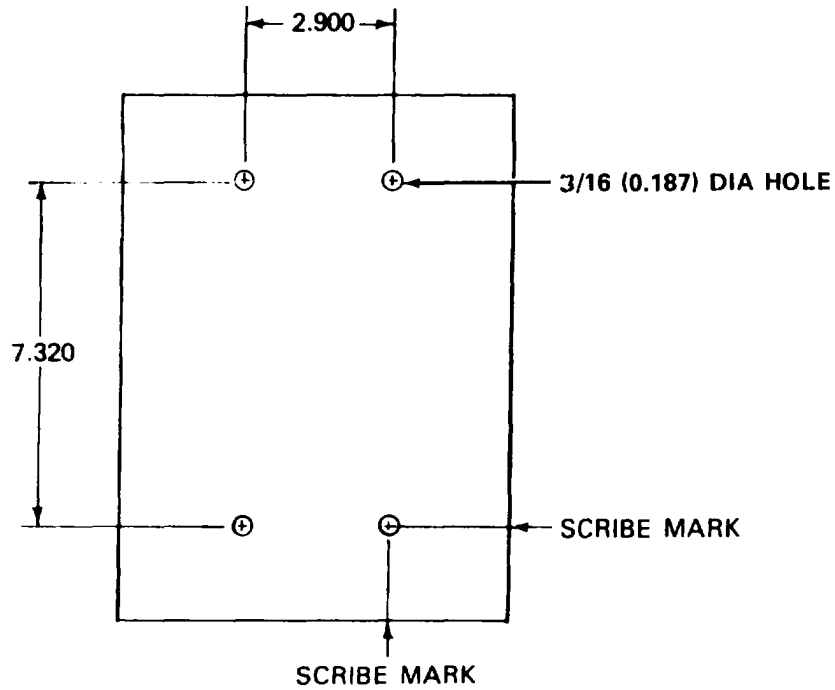

FIGURE 3-11. TEMPLATE
a. Fabricate a template and drill four 3/16 diameter holes to the dimensions shown in figure 3-11. Make scribe marks as shown.